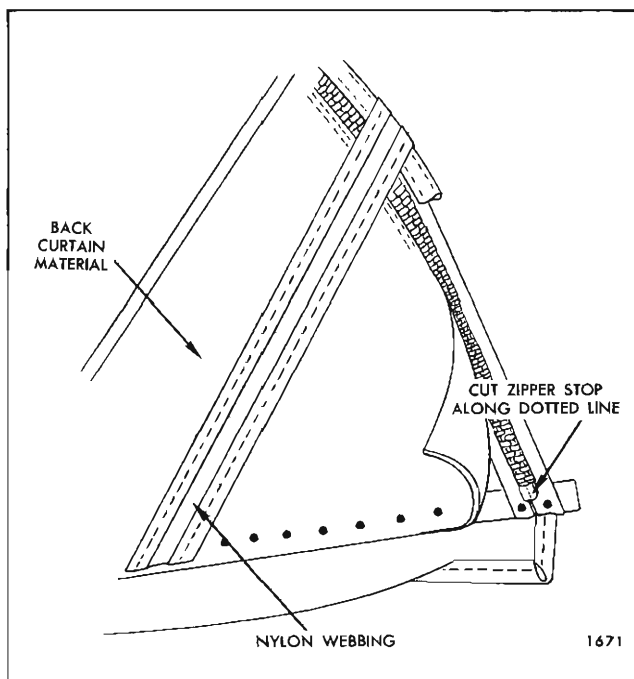

Fig. 5-I-50—Back Curtain Vinyl Replacement
5. To establish the relationship of right and left inner vertical edge of old top material to back curtain assembly at rear trim stick location, mark back curtain vinyl at both locations with a grease pencil (Fig. 5I41). Reference marks should be transferred to new back curtain when step 4 of installation procedure is performed.
9. Using a pair of wire cutting shears or other suitable tool, cut zipper stop along dotted line and remove both halves of stop from zipper (Fig. 5I50).